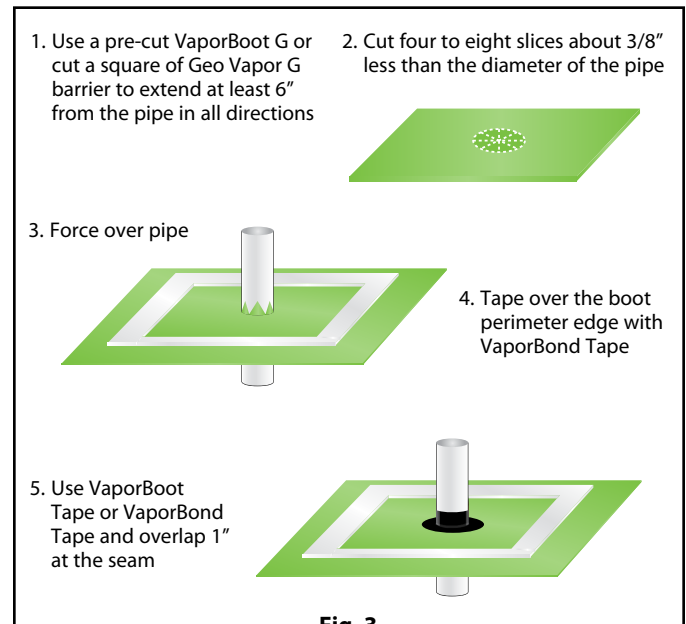

Fig. 3
Pipe boots may also be cut and fabricated from excess **Geo Vapor® G™** membrane (Fig. 3 & 4) and sealed with VaporBoot Tape or VaporBond Tape (sold separately).
To fabricate pipe boots from **Geo Vapor® G™** excess material (see Fig. 3 & 4 for A-E):
- Complete the process by taping over the boot perimeter edge with VaporBond Tape to create a monolithic membrane between the surface of the slab and moisture sources below and at the slab perimeter. (Fig. 3 & 4)